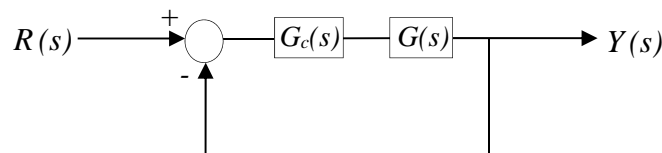

Figure 4
4. A closed loop hydraulic positioning system has a block diagram as shown in Figure 4. The process transfer function is $G(s) = \frac{s}{s(s^2 + 4s + 8)}$ and the controller transfer function is $G_c(s) = \frac{K}{s + 2}$